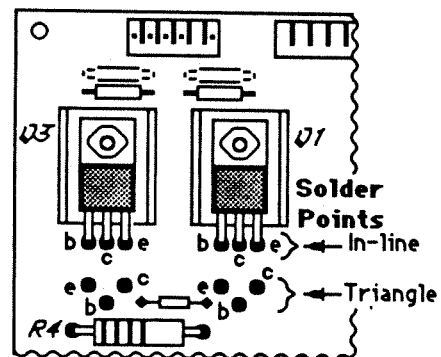

Figure 1. Solder Points for Power Supply Transistors Q1 & Q3.
2. If the power supply circuit board is one of the newer boards, which has three *in-line* solder points closer to the 6-pin connector (3J5) than the three *triangle arrangement* solder points, as shown in Figure 1, use these *in-line* connections and install the new transistor (MJE15030 or MJE15031) with its leads straight into their *in-line* solder points. Reattach the heat sink to the transistor. Do NOT bend the leads to lay it on the circuit board. Leave it standing upright.